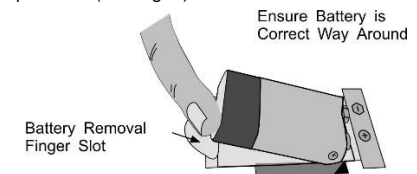

Fig. 3 – Battery compartment
1. Remove the battery (supplied) from the battery compartment on the underside of the heat alarm, and correctly fit it in the battery compartment (see Fig. 3).